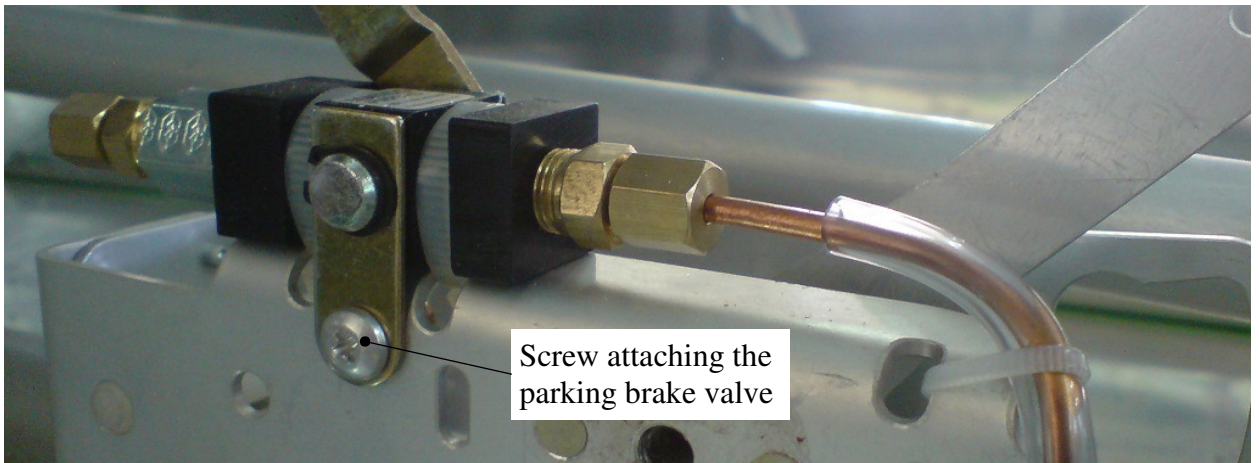

Fig. 1
3. Undo the screw attaching the parking brake valve (see fig. 1).
10. Fix the parking brake valve with its attachment screw (see fig. 1).